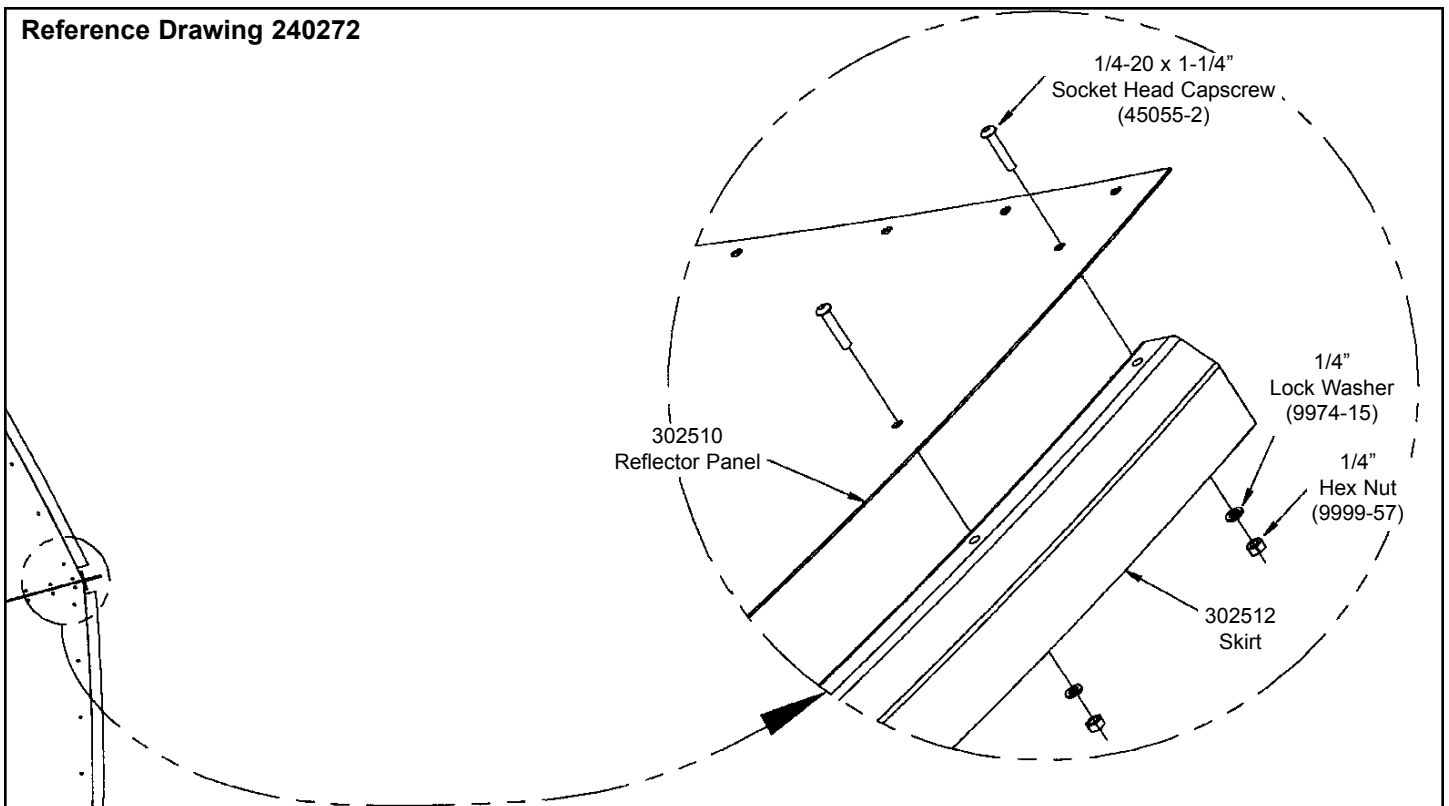

Figure 6
Step 5 Attach 302512 Skirts to outer edge of each 302510 Reflector Panel as shown in Figure 6. Ensure the edge angle of the skirt is in the same direction as the edge angle of the panel. Securely tighten all hardware. **Note:** All 302512 Skirts are to be installed **before** the 302510 reflector panels are installed on the ribs.